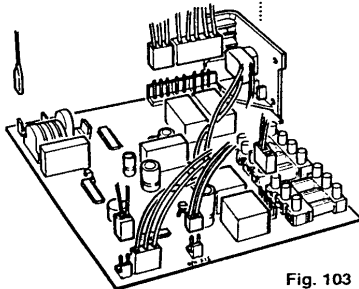

Fig. 103
6. Disconnect the plugs from the sockets on the circuit board (Fig. 103).